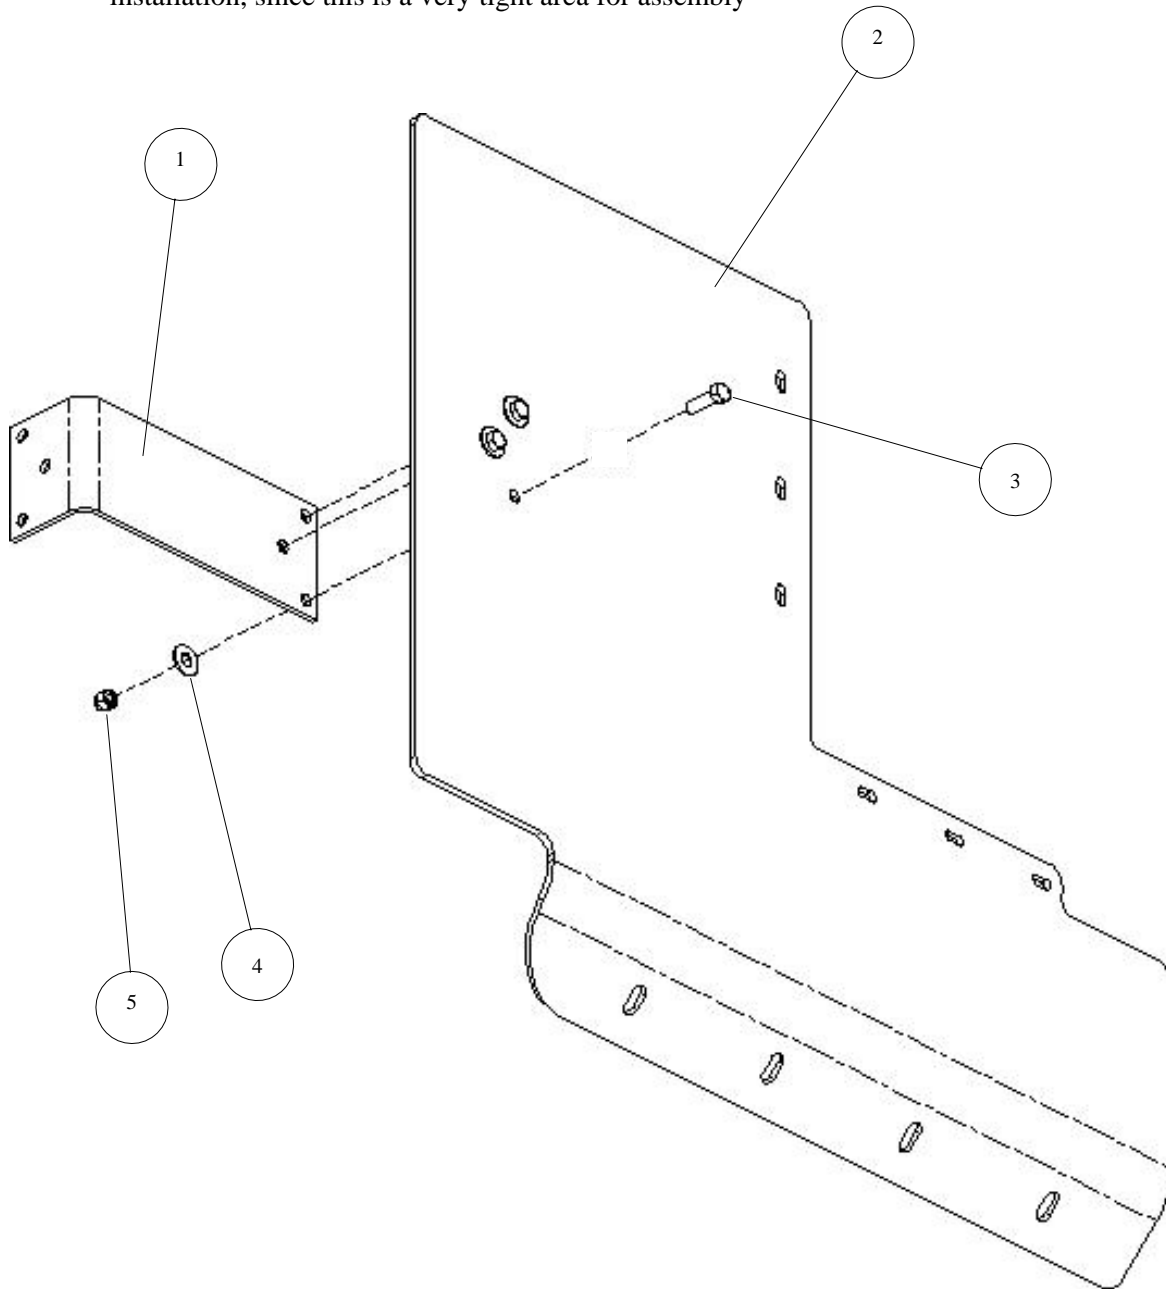

Figure 3-46. Doghouse Left Panel Assembly Installation.
8. Pre-assemble doghouse left panel assembly as follows (see Figure 3-46):
- a. Install one doghouse forward bracket (1) onto doghouse left panel (2) and secure with three bolts (3), three flat washers (4), and three locknuts (5). Torque locknuts to 35 lb-ft.